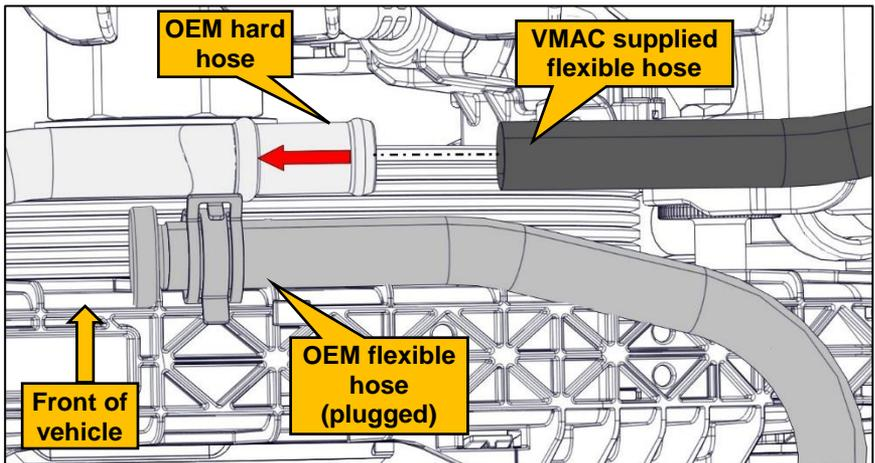

Figure 4 – Install VMAC hose
- Connect one end of the supplied hose to the metal coolant tube. Ensure the hose is seated against the bead in the OEM hard line and secure using a hose clamp (Figure 4).